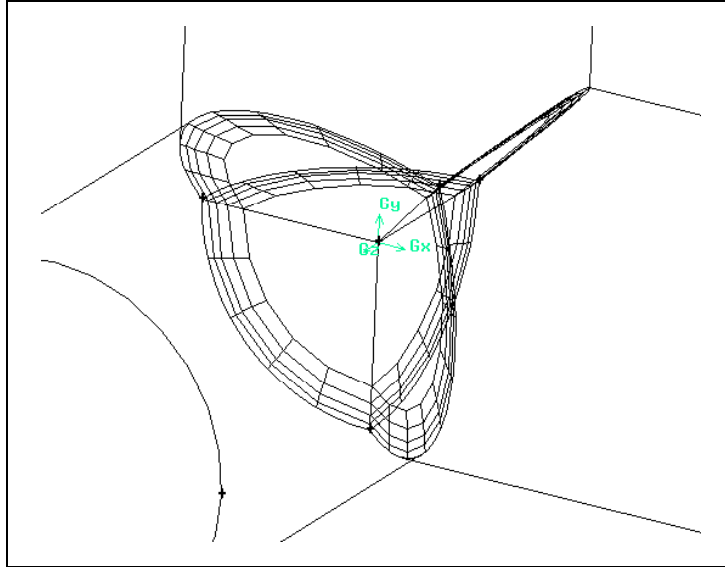

Figure 3-12: Boundary layers on the three edges where the pipes intersect
2. Repeat the above steps to create the same boundary layer on the three curved edges where the three pipes intersect, as shown in Figure 3-12. Again, the arrows on the edges must point towards the origin.